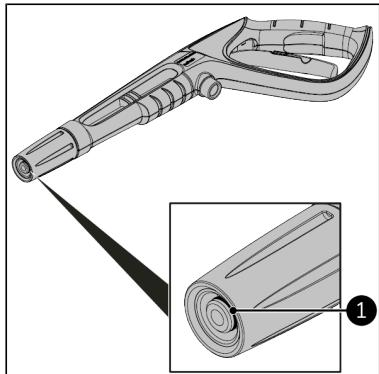

Figure 40.
2. Apply Vaseline to the O-ring of the jet gun (Figure 40, pos. 1).